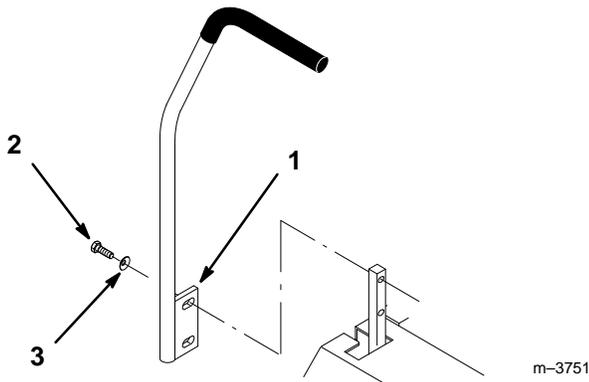

Figure 3
8. Remove the (4) 3/8–16 x 1” (26 mm) bolts and (4) 3/8” spring washers which attach the motion control levers to the control arm shafts for shipping (Fig. 3).
9. Place the levers (with the mounting plate towards the rear) on the outside of the control arm shaft and secure with (4) 3/8–16 x 1” (26 mm) bolts and (4) 3/8” spring washers (Fig. 3).
11. Align the front/rear position of the levers, with each other, in the neutral position. Loosen hardware and adjustment by sliding/tilting the lever(s) forward or backward until properly aligned(Fig. 3).